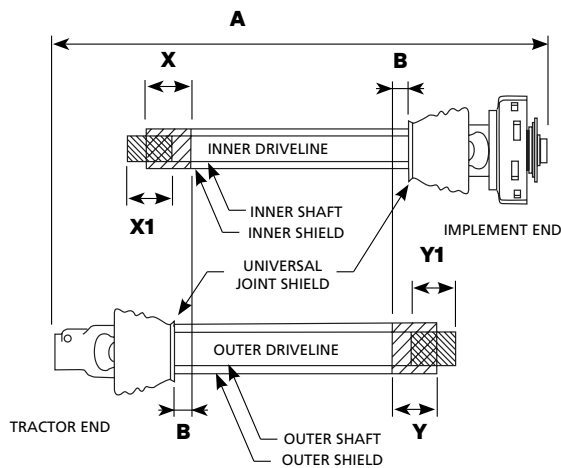

Figure 1 - Driveline Shortening
- With driveline level, measure 1" back from universal joint shield to end of outer driveline shield as shown in Figure 1 of SIZING THE PTO SHAFT. If measurement is less than 1", then shorten driveline using instructions provided.
Refer to Figure 1